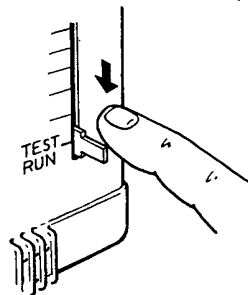

Fig. 9
- Set the thermostat lever to the lowest position. (The central position of the lever becomes the TEST RUN position.) Fig. 9